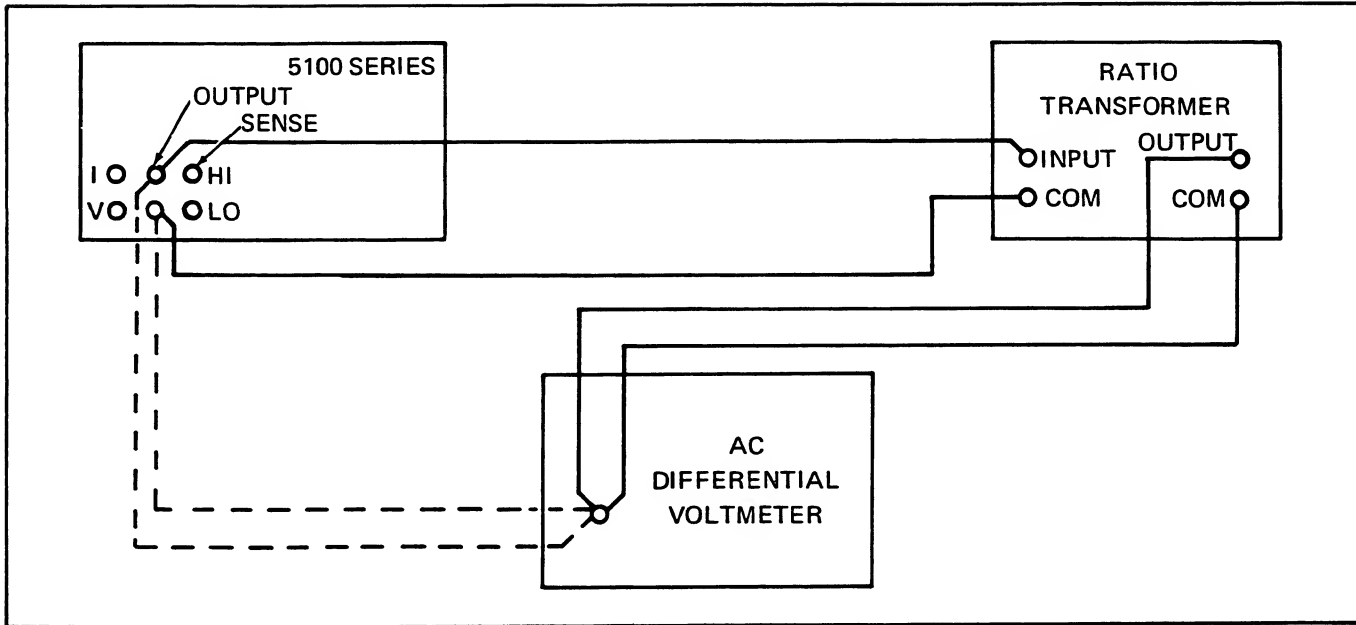

Figure 4-8. AC Low Voltage Tests
13. Connect the equipment as shown with the solid lines in Figure 4-8.
19. Connect the equipment as shown with the broken line in Figure 4-8.